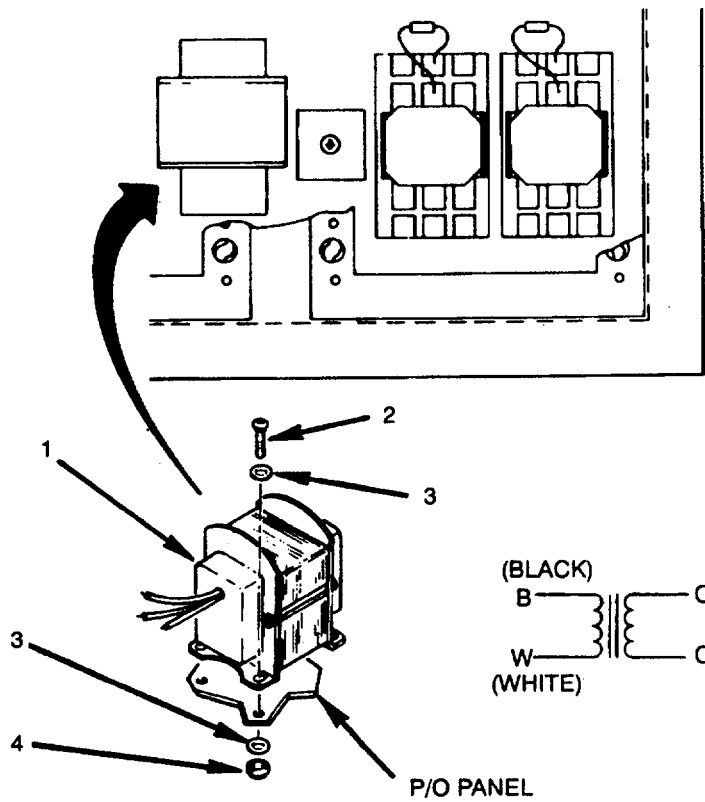

Figure 4-63. Transformer (T1)
1. Tag and disconnect leads (see Figure 4-63).
2. Remove four screws (2), locknuts (4), and eight flat washers (3).
3. Remove transformer (1).